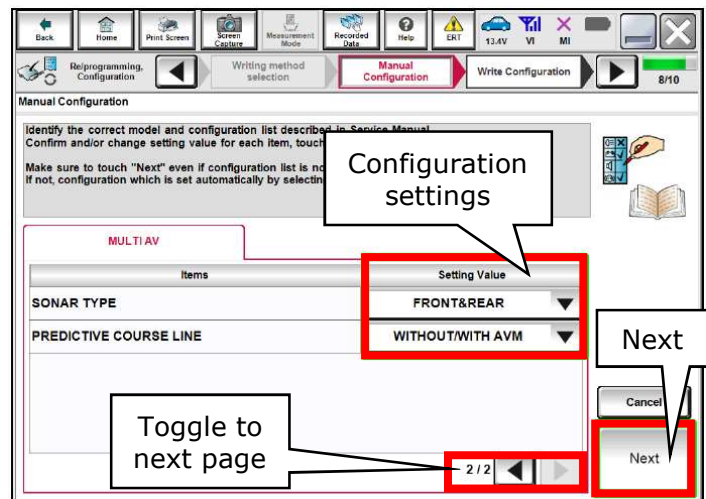

Figure 35
- Select **Next**. (Figure 35)